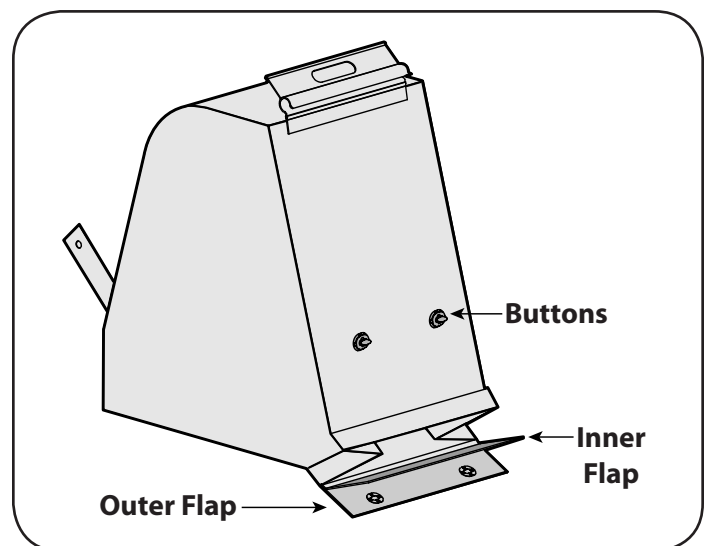

Figure 12
5. Twist the two buttons on the back of the bag to unlock and empty contents. See Figure 12. Hold bag handle and bag clip while emptying the contents.